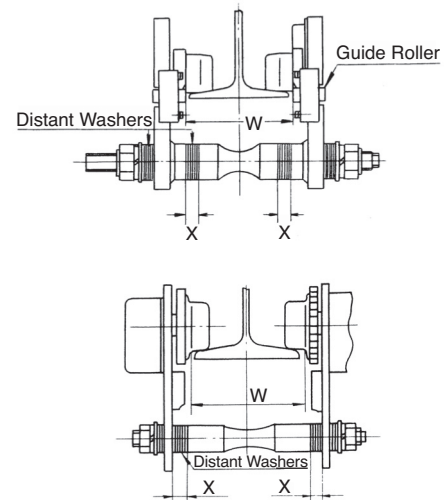

Fig.1 Trolley width adjustment
- When the dimension X (in Fig. 1) is Zero the dimensions W for each capacity of the trolley are listed below.
Set all distant washers as Fig. 1 shows.